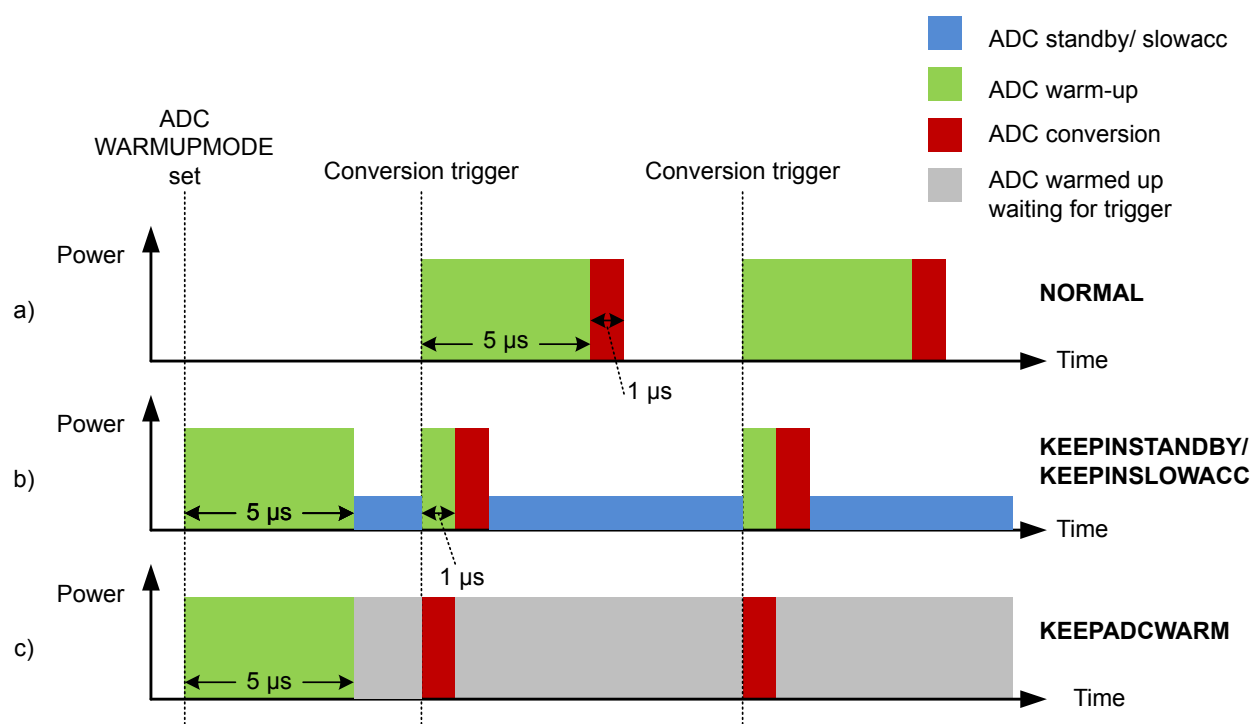

Figure 24.4. ADC Analog Power Consumption With Different WARMUPMODE Settings
Normally, the ADC will be warmed up only when samples are requested and is shut off when there are no more samples waiting. However, if lower latency is needed, configuring the WARMUPMODE field in ADCn_CTRL allows the ADC and/or reference to stay warm between samples, reducing the warm-up time or eliminating it altogether. Figure 24.4 ADC Analog Power Consumption With Different WARMUPMODE Settings on page 758 shows the effects on analog power consumption in scenarios using different WARMUPMODE settings.
- **NORMAL:** This is the lowest power option for general-purpose use and low sampling rates (below 35 ksp/s). The ADC and references are shut off when there are no samples waiting. The ADC does not consume any power when it is shut down. A 5 μ s warmup time will be initiated prior to every conversion. Figure a in Figure 24.4 ADC Analog Power Consumption With Different WARMUPMODE Settings on page 758 shows this mode.
- **KEEPINSTANDBY:** This mode is suitable for infrequent sampling of lower impedance inputs, and is the lowest power option for sampling rates between about 35 and 125 ksp/s. It may also be useful for lower sampling rates where latency is important. The reference selected for scan mode is kept warm, but the ADC is powered down. The ADC will initiate a 1 μ s warmup period before a conversion begins. Because the reference is kept warm, the ADC will consume a small amount of standby current when it is not converting. Figure b in Figure 24.4 ADC Analog Power Consumption With Different WARMUPMODE Settings on page 758 shows this mode.
- **KEEPADCWARM:** This mode provides the lowest latency and allows for maximum sampling rates. The ADC and reference circuitry remain powered on even when conversions are not in progress. Figure c in Figure 24.4 ADC Analog Power Consumption With Different WARMUPMODE Settings on page 758 shows this mode. This mode consumes the most power, but as soon as a trigger event occurs, the acquisition and conversion begin with no warm-up time. Note that if KEEPADCWARM mode is set and HFXO is selected as the ADC clock source, the HFXO will remain on in EM2.